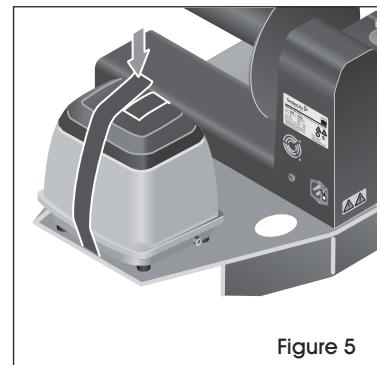

Figure 5
7. Secure both ends of the hook and loop strip together to secure the air pump to tray kit. (See Figure 5)